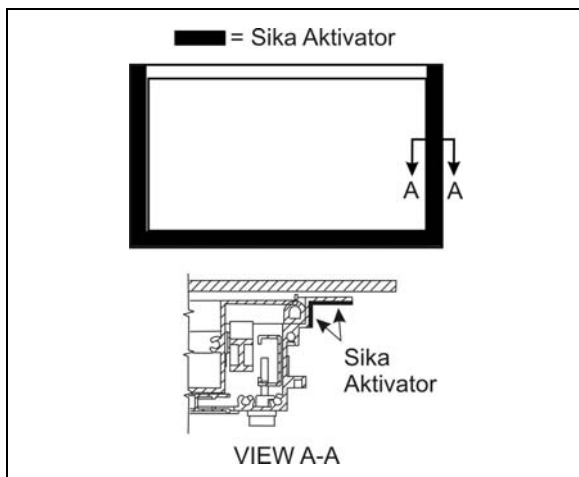

FIGURE 69 : AWNING WINDOW – SIKA AKTIVATOR
- Previously clean surface with anti-silicone and then apply Sika Aktivator as per FIGURE 69;